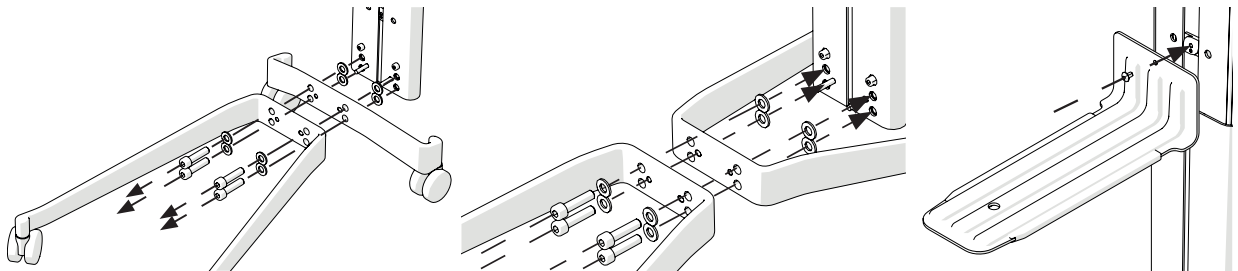

Fig. 3 Assembly steps
6. Align the short side of the long foot (no. 1) with the long foot already attached to the caddy (see fig. 3).